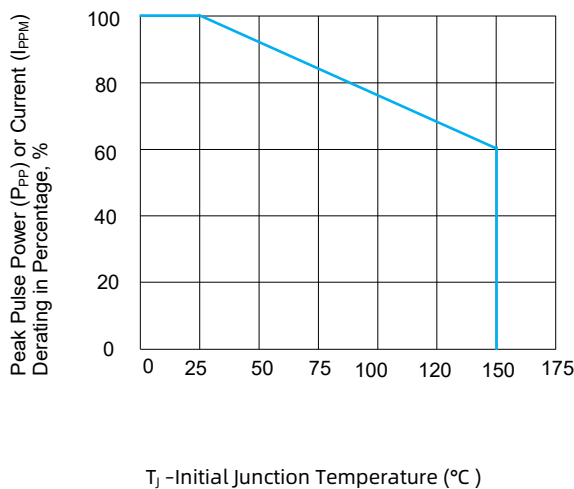
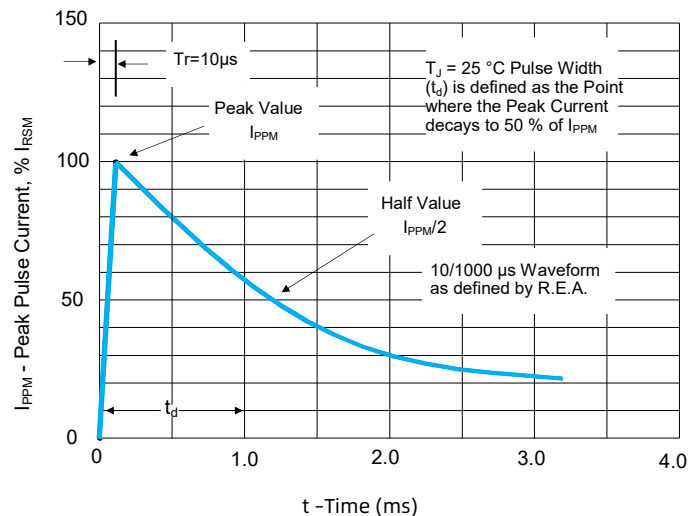

FIGURE 3 Peak Pulse Power Derating Curve
FIGURE 4 Pulse Waveform
1. Non-repetitive current pulse, per Fig. 4 and derated above TJ(initial)=25°C per Fig. 3.